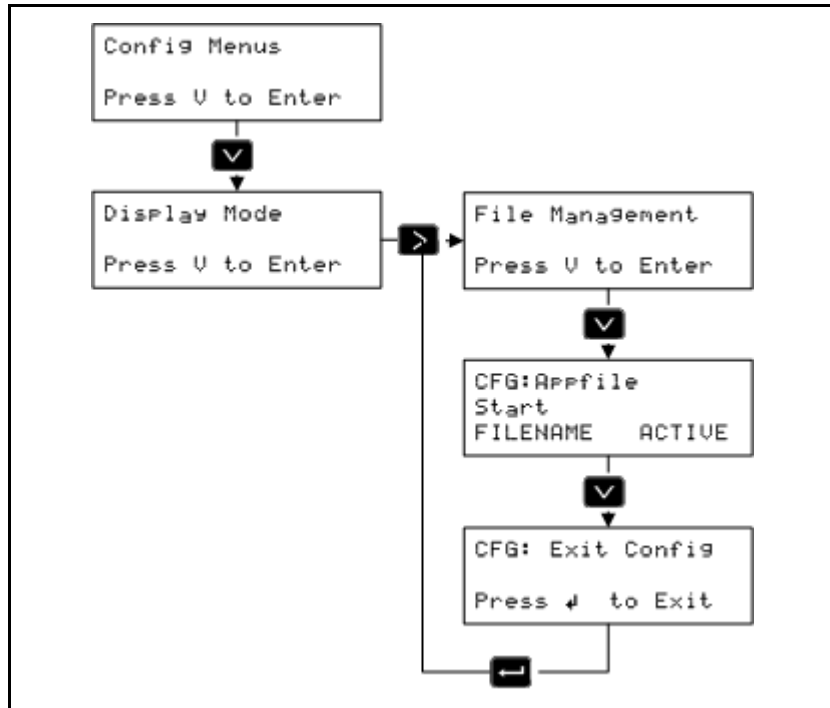

Figure A.4 Reviewing base files
- There are no base station files that match. Review the base files. See Figure A.4, page 63.
Figure A.4 shows how to review base files, to determine if a file is missing or duplicated.